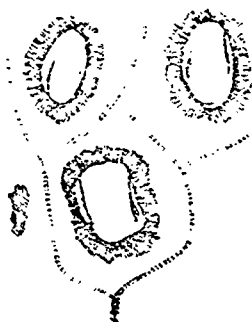
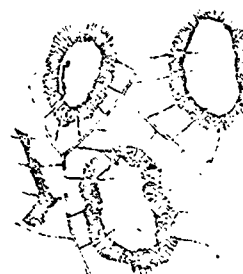

Fig. 4.
Fig. 5.
3. On uneven land, or with knolls and hollows, as shown in fig. 4, place the drains in the hollows, so as to run in the direction shown by the arrow. If the side hills need more draining, branches may be cut running into these bottom or main drains, fig. 5.